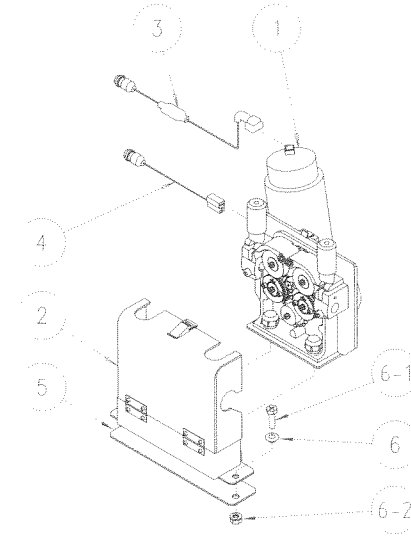

Fig.1 Main Body and Wiring Assembly
8.1 Main body and Wiring (Fig.1)